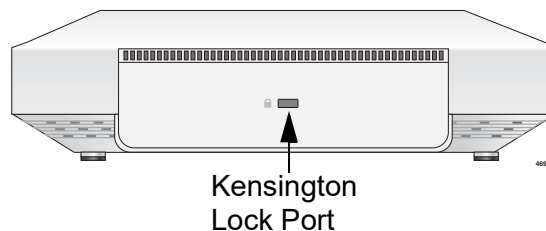

Figure 14. Kensington Lock Port Location
1. Follow the instructions provided with the vendor's anti-theft device packaging for the installation. Refer to Figure 14 for the Kensington lock port location.